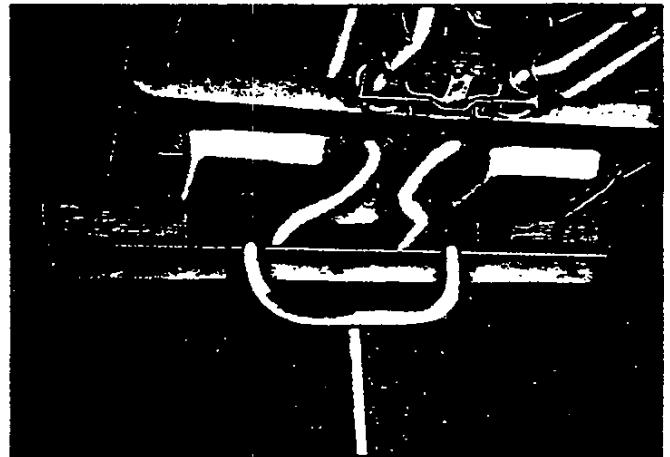

Fig. 14—Frame Lift Adapters
- b. If rear axle work is contemplated, use either suspension adapters or drive-on adapters at the front and frame lift adapters as shown in Figure 14. If frame lift adapters are not available, use jack stands.
NOTE: Wooden blocks bolted to steel beam shown in Figure 14 are necessary to allow beam to clear exhaust system.